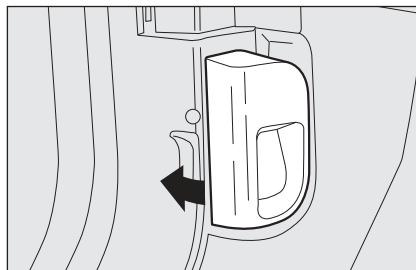

fig. 89
- pull the lever **fig. 89** in the direction of the arrow;